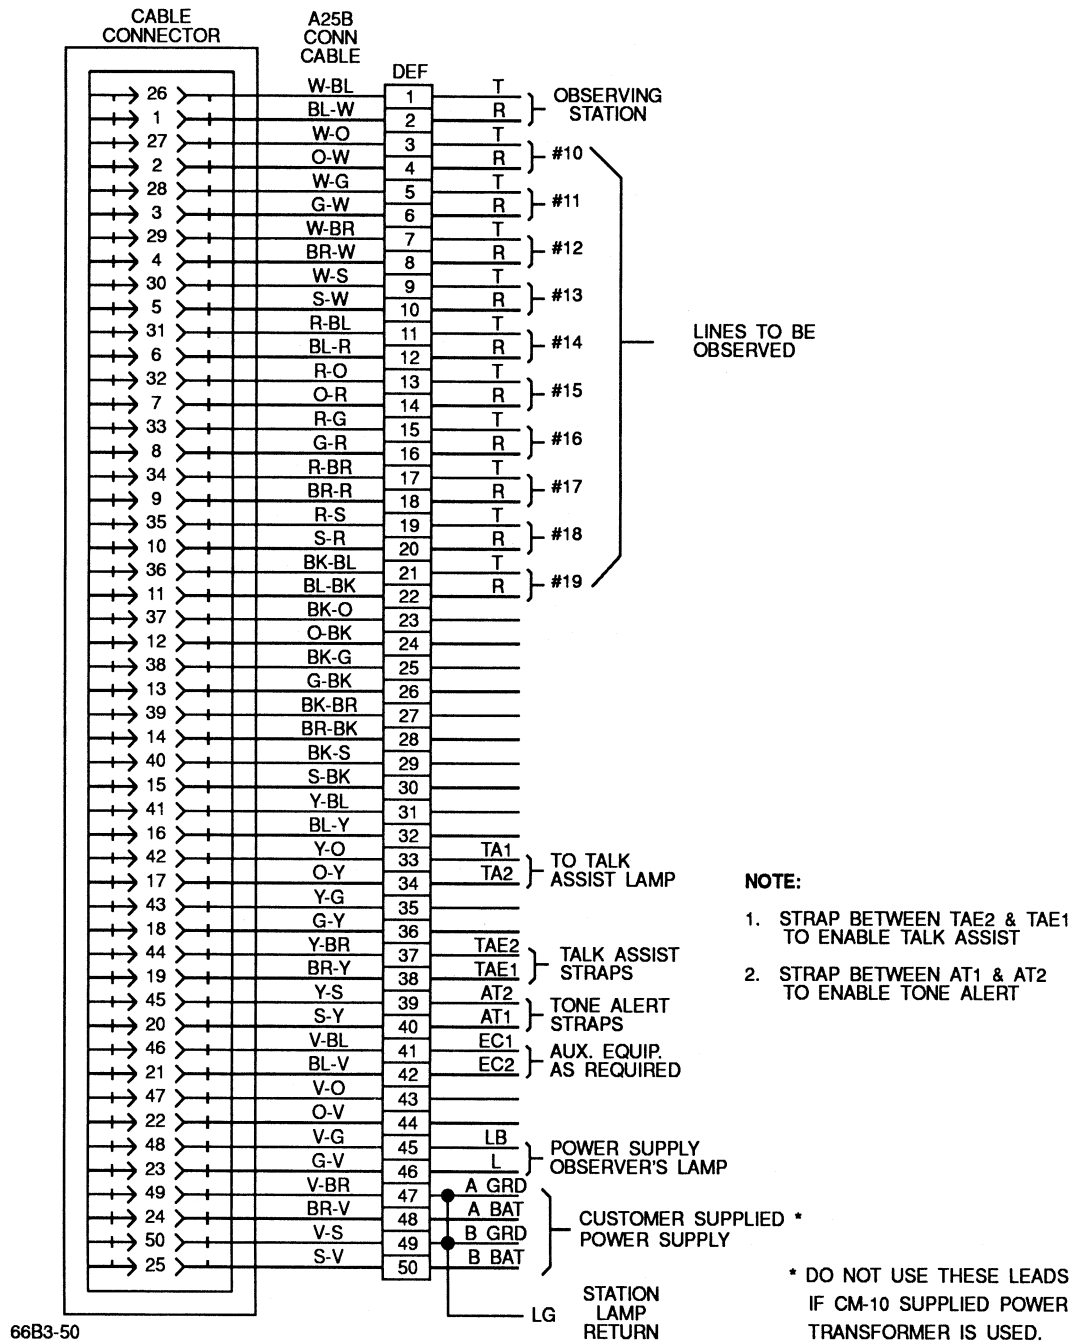

Fig. 5
4.04 **To enable tone alert and talk assist options**, refer to Figure 5 for strapping instructions.